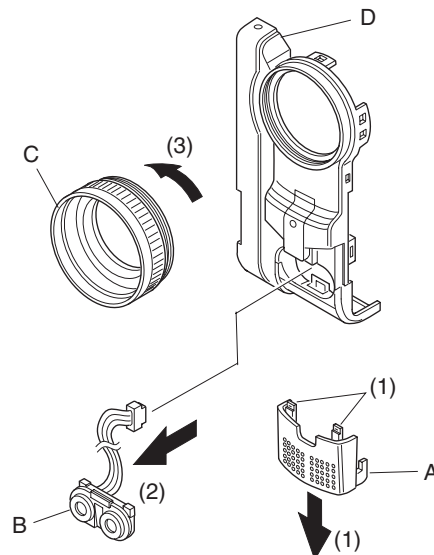

Fig. 4-7
4.7 Microphone cover, Microphone, Lens hood, and Front case (Fig. 4-7)
■ Microphone cover (A), Microphone (B)